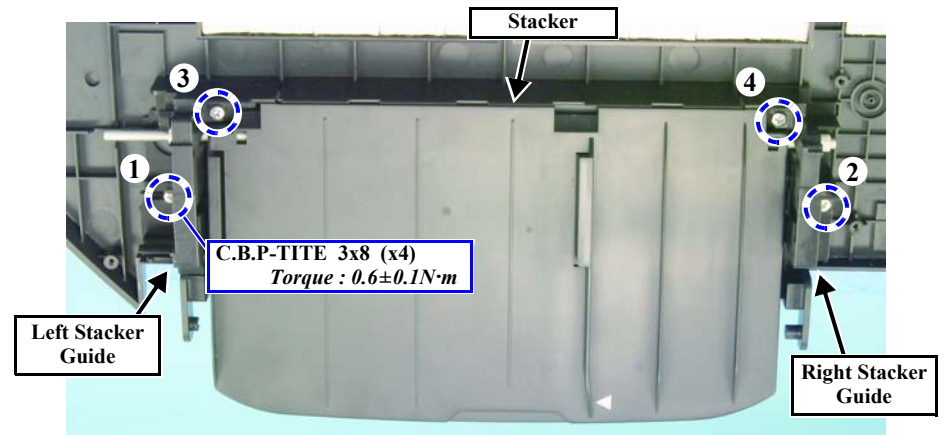

Figure 4-51. Removing the Stacker Assy
5. Remove the screws (x4) securing the Stacker Assy. (Fig. 4-51)
- Tighten the screws in the specified order. (Fig. 4-51)